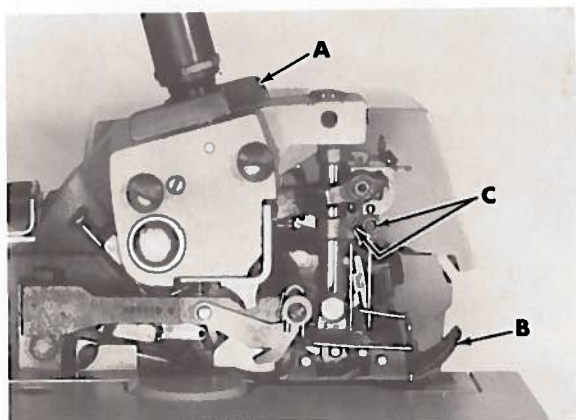

Fig. 3
To replace needles, turn handwheel in operating direction until needles reach highest position. Rotate presser foot release lever (A, Fig. 3) counterclockwise and swing presser foot (B) to the left. Loosen screws (C) and remove needles. Insert new needles against stop in holder with scarf of needle positioned to the rear; tighten screws (C). Swing presser foot (B) into position and lock presser foot release lever (A).